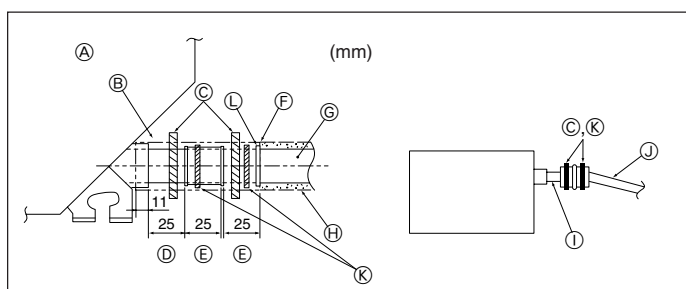

Fig. 3-5
- Connect the drain socket (supplied with the unit) to the drain port. (Fig. 3-5) (Affix the tube using PVC adhesive then secure it with a band.)